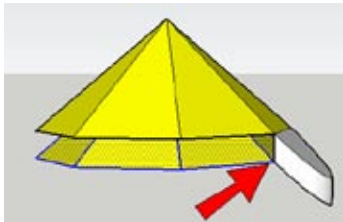

Figure 5-85
12. To give the triangular parts of the umbrella roof the same thickness as the round flap, copy the eight triangular faces straight down to meet the bottom of the round flap (Figure 5-85).